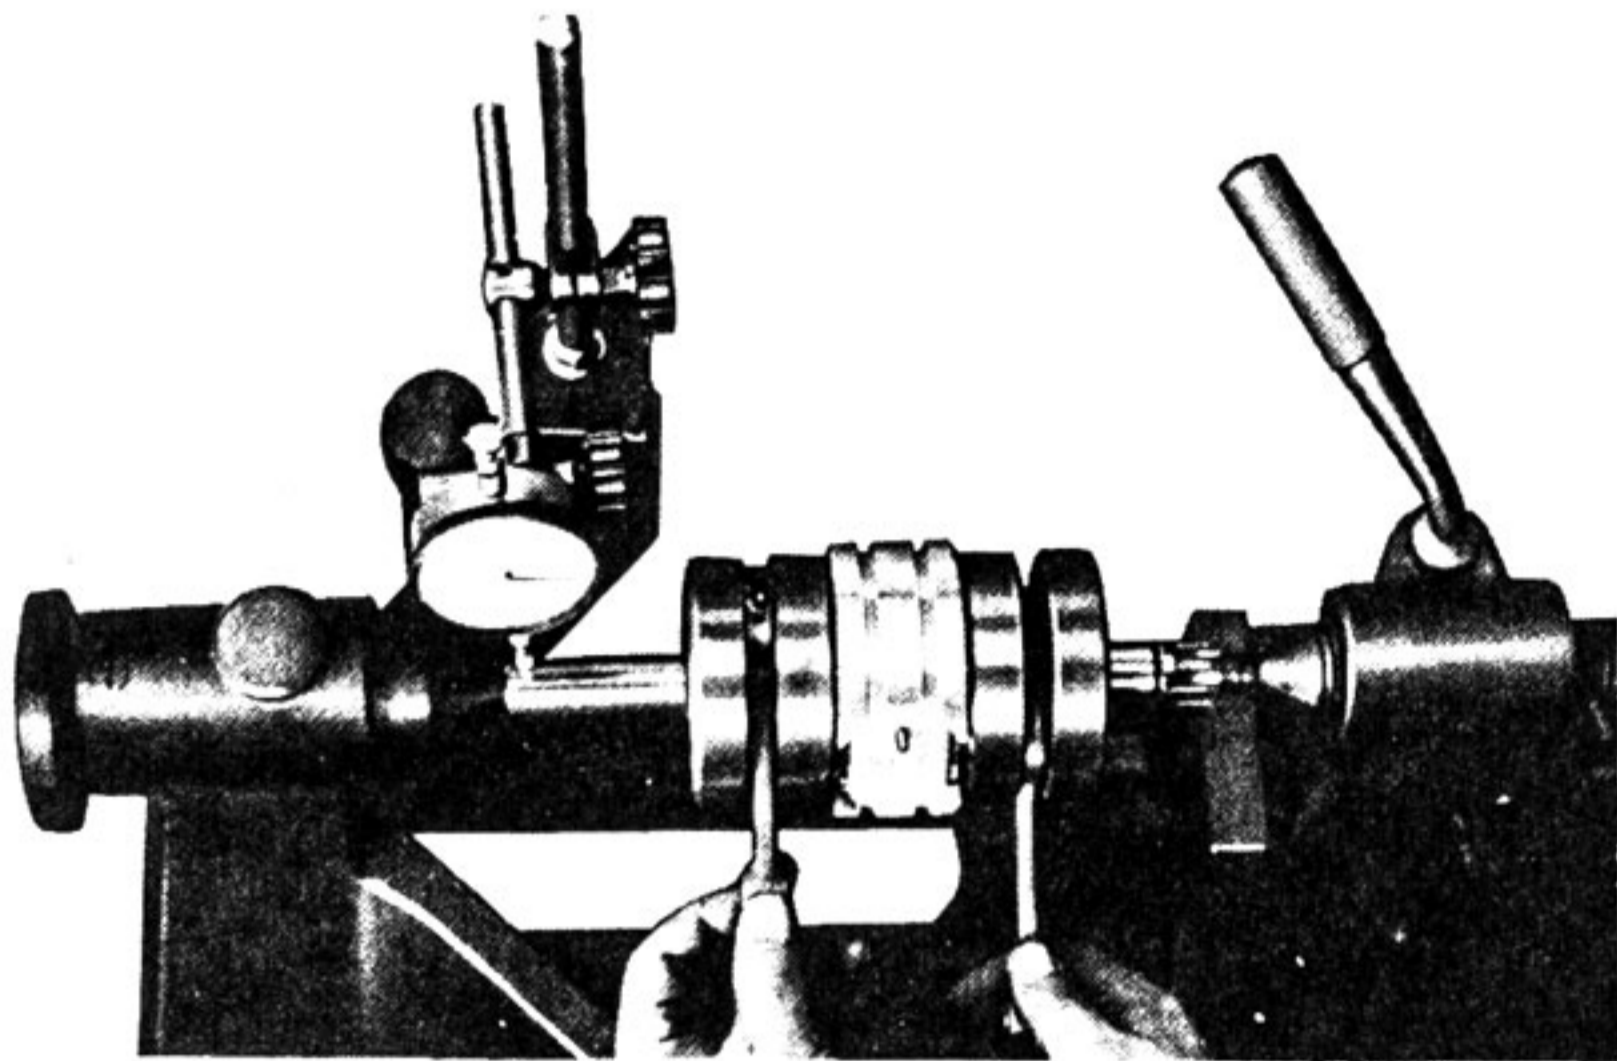

Fig. 4-17-19
(1) Place the crankshaft ass'y on V block or other suitable centering device and check for alignment. (Fig. 4-17-19)